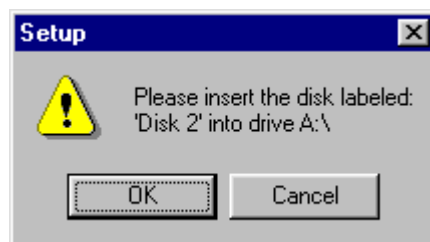

Figure 3.4
Step 3 You will see figure 3.4. Insert disk labeled Disk 2 into drive “A” or drive “B”. Click on the “OK” button.